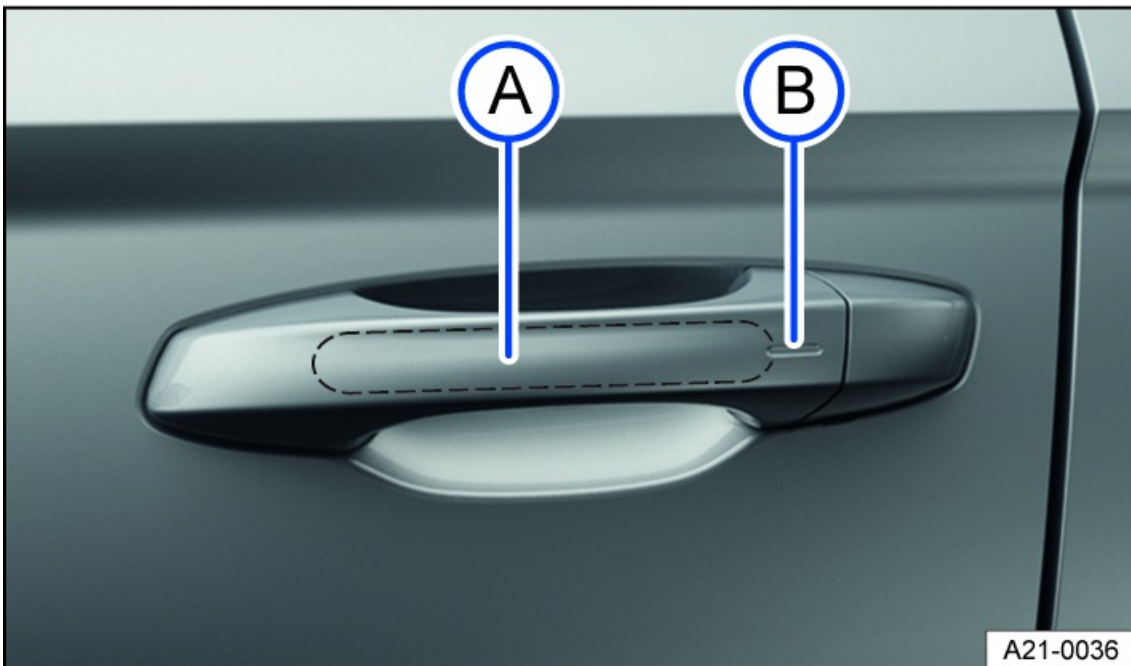

Fig. 43 In door handle: sensors.
1. Touch the sensor *fig. 43* on the inside of the driver or passenger door handle.
3. Touch the sensor *fig. 43* on the outside of the driver or passenger door handle.
2. Within five seconds of locking the vehicle, touch the sensor on the outside of the door handle once *fig. 43*. Do not grasp the door handle during this process.
1. After you have exited the vehicle, press and hold the sensor on the driver or front passenger door handle for a few seconds *fig. 43*.